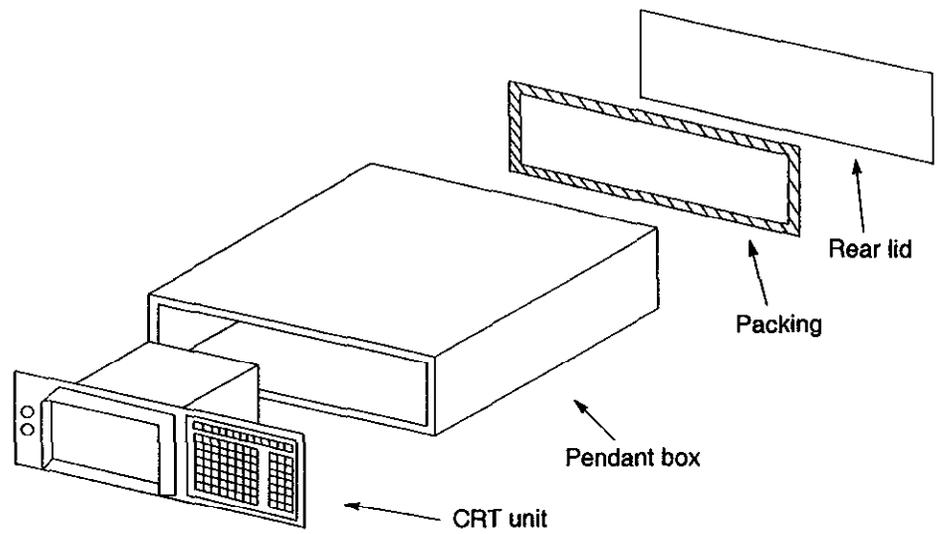

Fig. 1.10 CRT Unit
- Seal the clearance at the cable inlet, door, rear lid, etc. with packing material. (Refer to Fig. 1.10.)